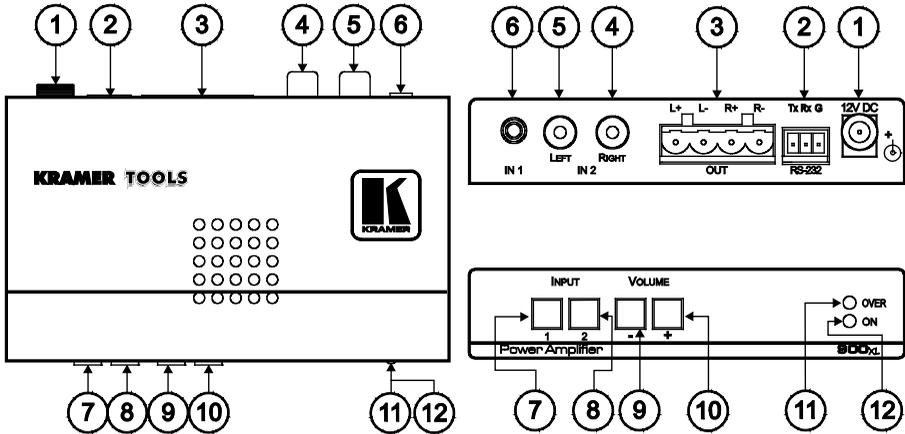
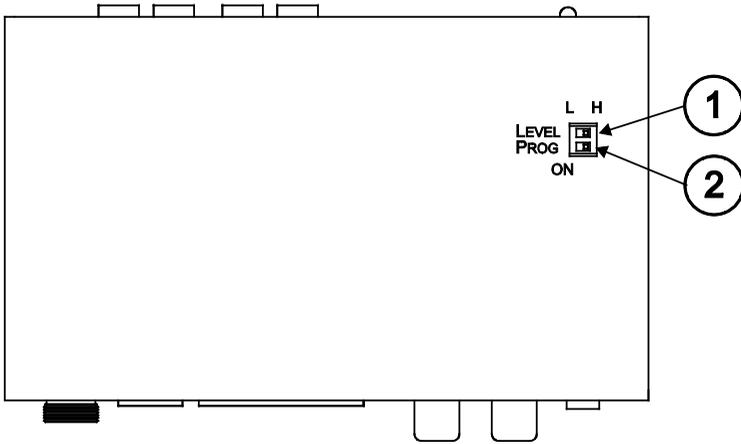

Figure 1: 900xl Power Amplifier – Top, Front, and Rear Views
Figure 2: 900xl Power Amplifier – Underside View
Figure 1, Figure 2, Table 1, and Table 2 define the unit.
**Note:** In the case of output distortion that cannot be corrected using the volume controls, try switching the LEVEL switch on the underside of the unit (see Figure 2) from H to L and alter the output using the volume control.